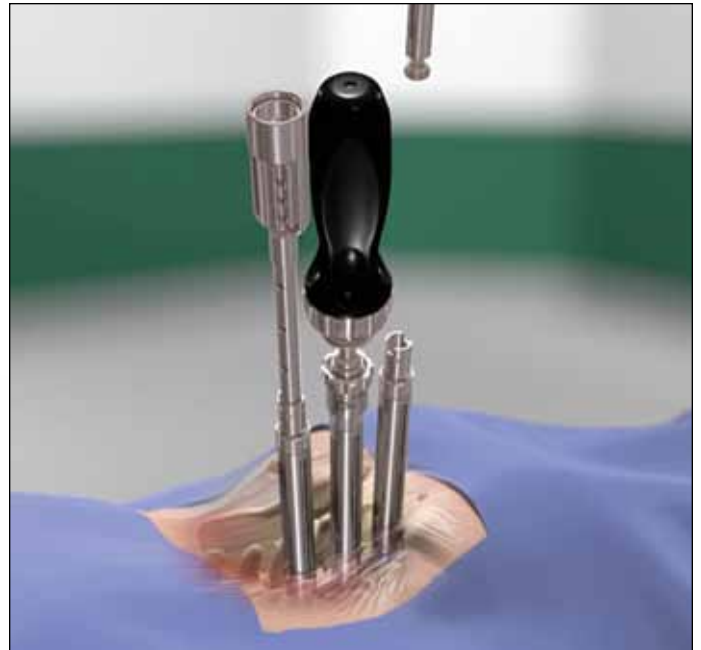

FIG. 31
- Place Set Screw in the adjacent screw. **(FIG. 31)**